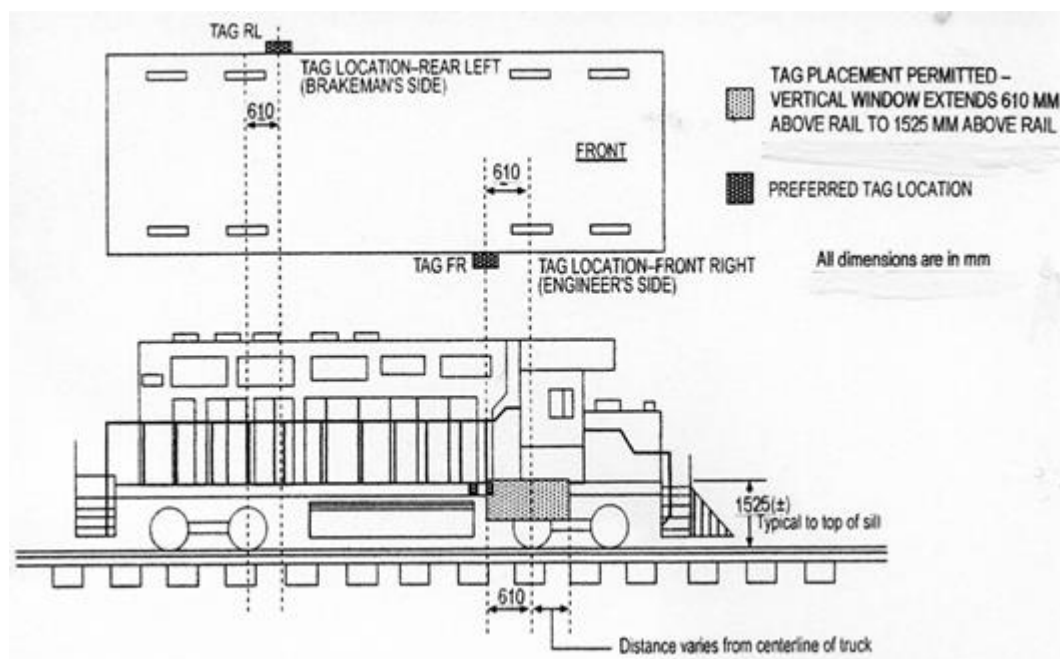

Figure 5 - Location of AEI tags – Four axle locomotive
- Figure 5 Six axle locomotives (AAR S-918 Exhibit B)